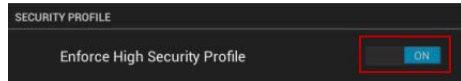

FIG. 83 SECURITY PROFILE setting
1. Press the **Enforce High Security Mode** option to toggle it from ON to OFF (FIG. 83):